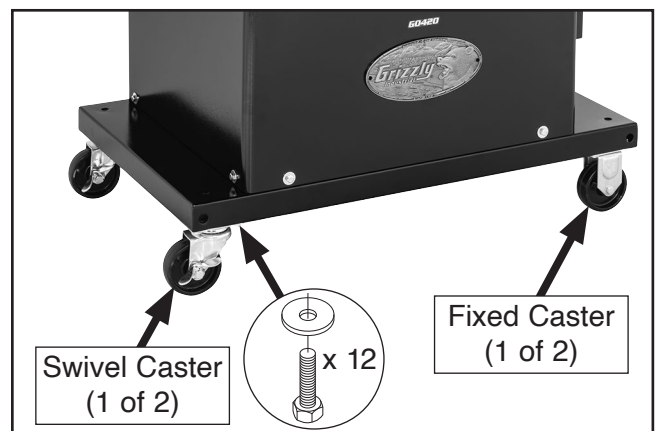

Figure 21. Casters installed on stand.
6. Install (2) fixed casters on one end of stand and secure with (6) M6-1 x 20 hex bolts and 6mm fender washers (see **Figure 21**).
7. Install (2) swivel casters on opposite end of stand and secure with (6) M6-1 x 20 hex bolts and 6mm fender washers (see **Figure 21**).